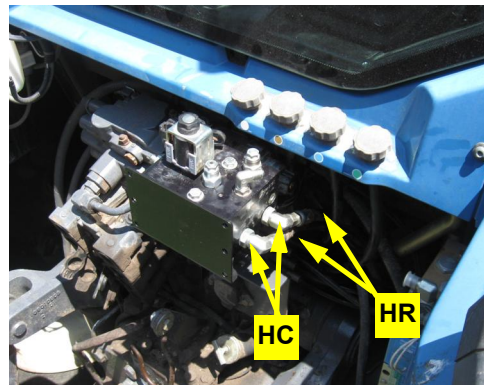

Figure 5d: Steering output hoses connected at steering block
- d. At the back of the machine, connect the steering output hoses to the fittings **HC** in the **A** and **B** ports of the hydraulic steering block (Figure 5d).